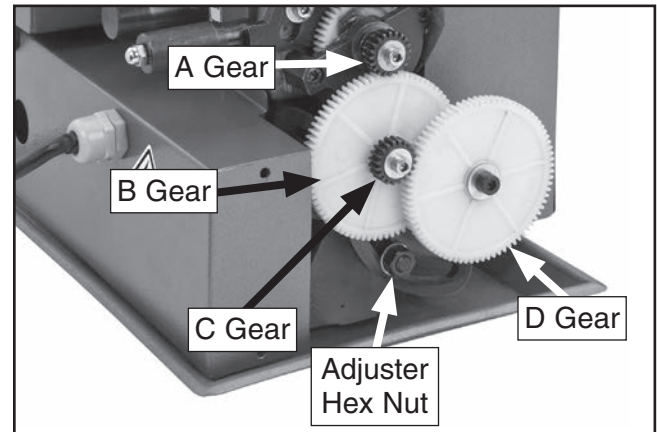

Figure 60. Adjuster hex nut location.
5. Loosen adjuster hex nut shown in **Figure 60**, pivot adjuster down, and disengage gears.